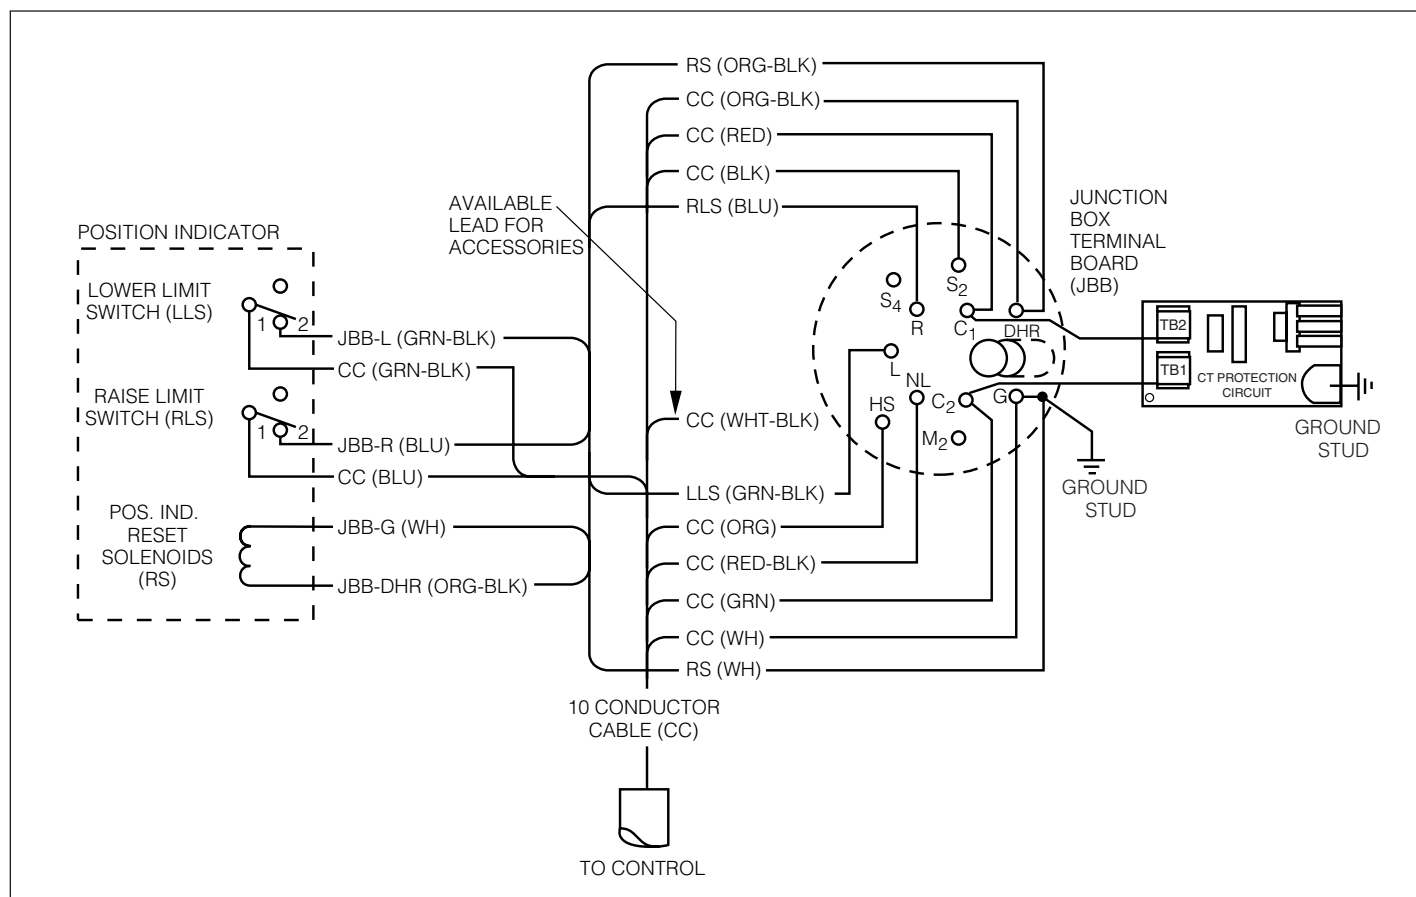

Figure 6-1.
The junction box is composed of a terminal board, the position indicator, and the control box interconnections. Refer to Figure 6-1, page 6-5, when the following steps are made:
4. Disconnect the four leads from the junction box terminal board and open the two splice terminals to the control cable. Refer to Figure 6-1.
10. Connect the six leads to the terminal board and control cables leads per Figure 6-1 and secure all connections.
- a. Align the black scribe line on the position indicator (PI) coupling to the center of the operating band notches on the PI housing (**The notches are located on the back hub of the PI housing**). Note that the new Cooper PI has a one-piece input shaft/coupling and a raised mark at the 12 o'clock position on the PI housing hub. Also, note the counterclockwise (ccw) and clockwise (cw) band indicator notches **located on the sides of the 12 o'clock mark. Each band indicator notch is 15 degrees in bandwidth.**